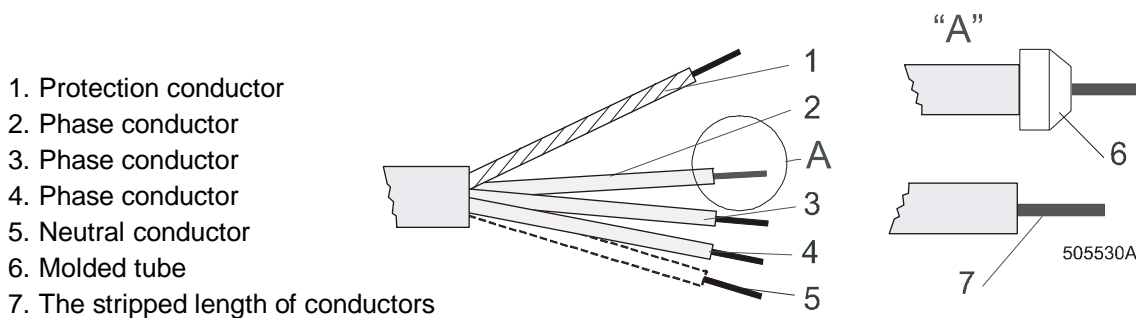
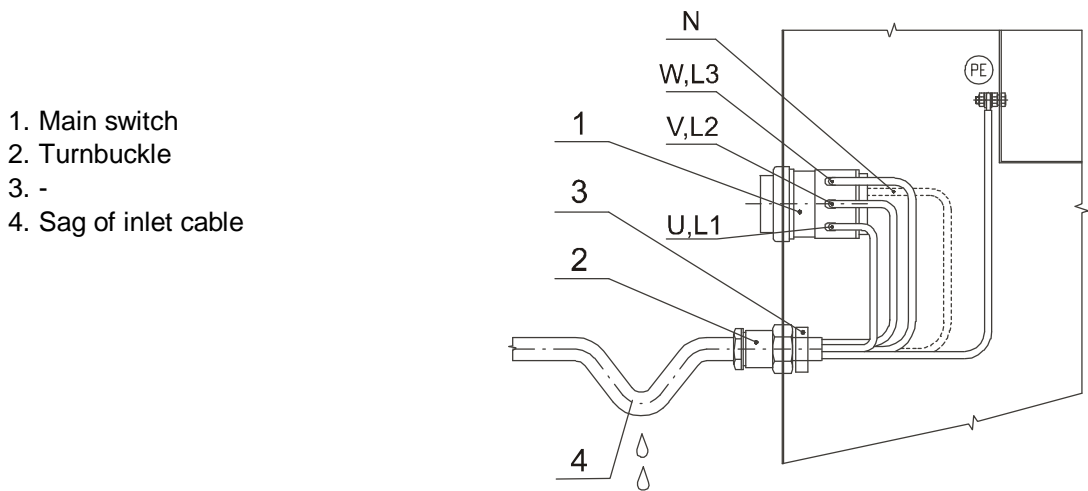

Figure 29 – Adaptation of conductor ends of supply cable
Figure 30 – Connection of main power inlet
- Strip the conductor ends according Figure 29.
- With stranded conductors, use “wire end tubes” with an insulated sleeve (6) for L1/U, (L2/V), (L3/W), (N) conductors. Make sure there can not be make accidental contact, since the supply cable stays under voltage even when the main switch is off.
- Connect the supply cable conductors to the incoming terminals (main switch (1)) marked with L1/U, (L2/V), (L3/W), (N), and the terminal (copper screw) marked with PE, see Figure 30.
- Provide a sag in the cable, in front of the cable strain relief. This will avoid ingress of condensed water into the machine, see Figure 30.